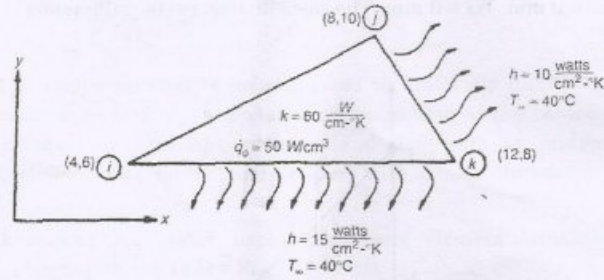

Fig. 4
16. (a) Compute the element matrices and vectors for the element shown in Fig. 4, when the edges jk and ki experience convection heat loss.